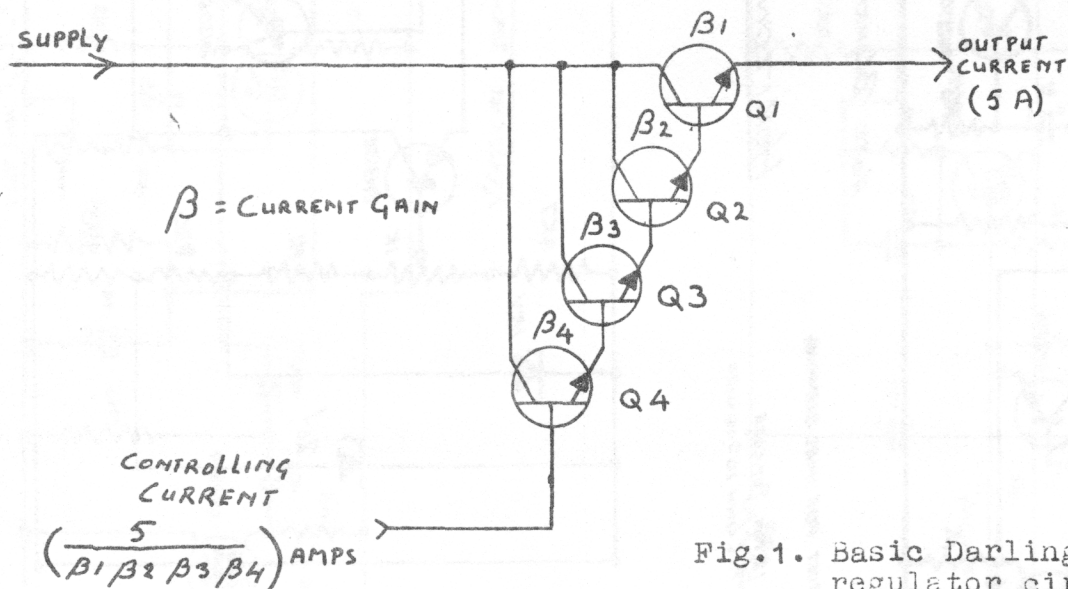

Fig.1. Basic Darlington regulator circuit.
2. Initial Design Procedure. (see fig. 1.)